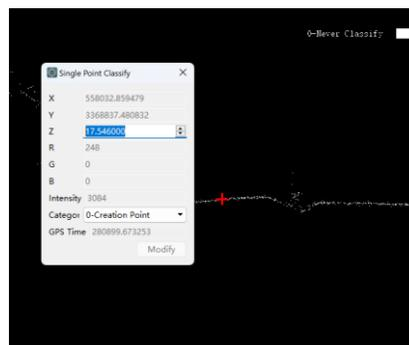

Figure 3-165 Single Point Classification
- (1) Click the menu <Profile>→<Single Point Classification>, after selecting any point in the profile view, the selected point will be marked by the red crosshair cursor, and the Single Point Classification dialog box will be popped up (Figure 3-165).
- (2) In the dialog box, you can modify the attributes of the point, including coordinates, color, intensity value, category and GPS time. After clicking the <Modify> button, the modified effect will be updated in the view immediately.